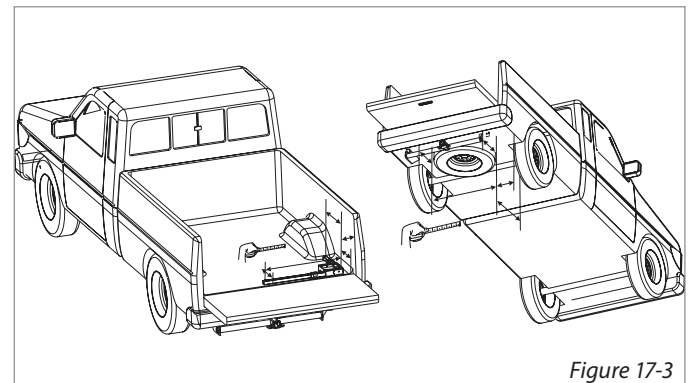

Figure 17-3
- 3. Recommended practice before drilling.** Position the Base to the nearest the corner, leaving at least 1" of clearance on all sides of the base [Figure 17-3]. With the Base resting in place, use a tape measure to estimate the distance in both directions from an exterior point (EX. Outside body panel) to all potential bolt holes. Repeat this measure underneath the vehicle. [Figure 17-3]